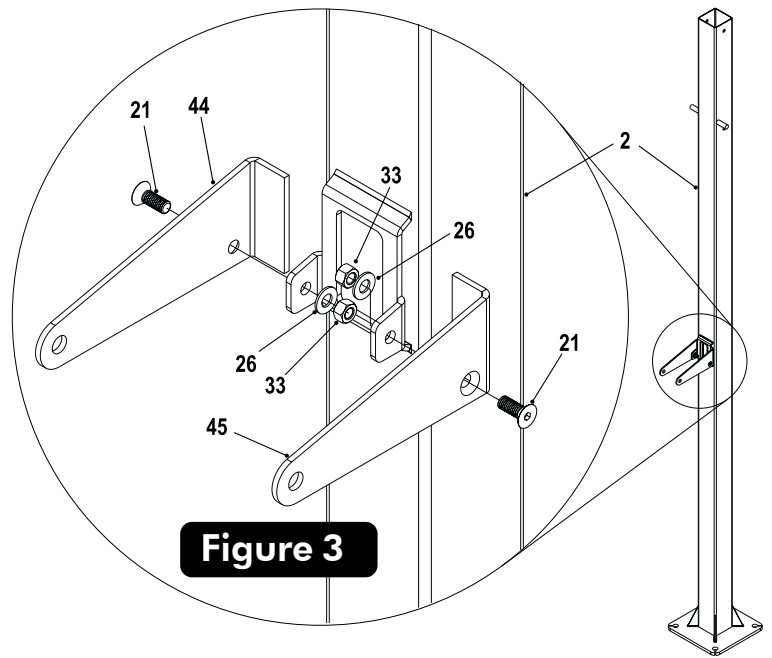

Figure 3
- Slide Right Post Ear (#44) and Left Post Ear (#45) behind bracket on back of Post Assembly (#2). Using allen wrench (#46) provided, secure Right & Left Post Ears to bracket using one Flat Head Bolt (#47), one flatwasher (#26) and one locknut (#33). See Figure 3.